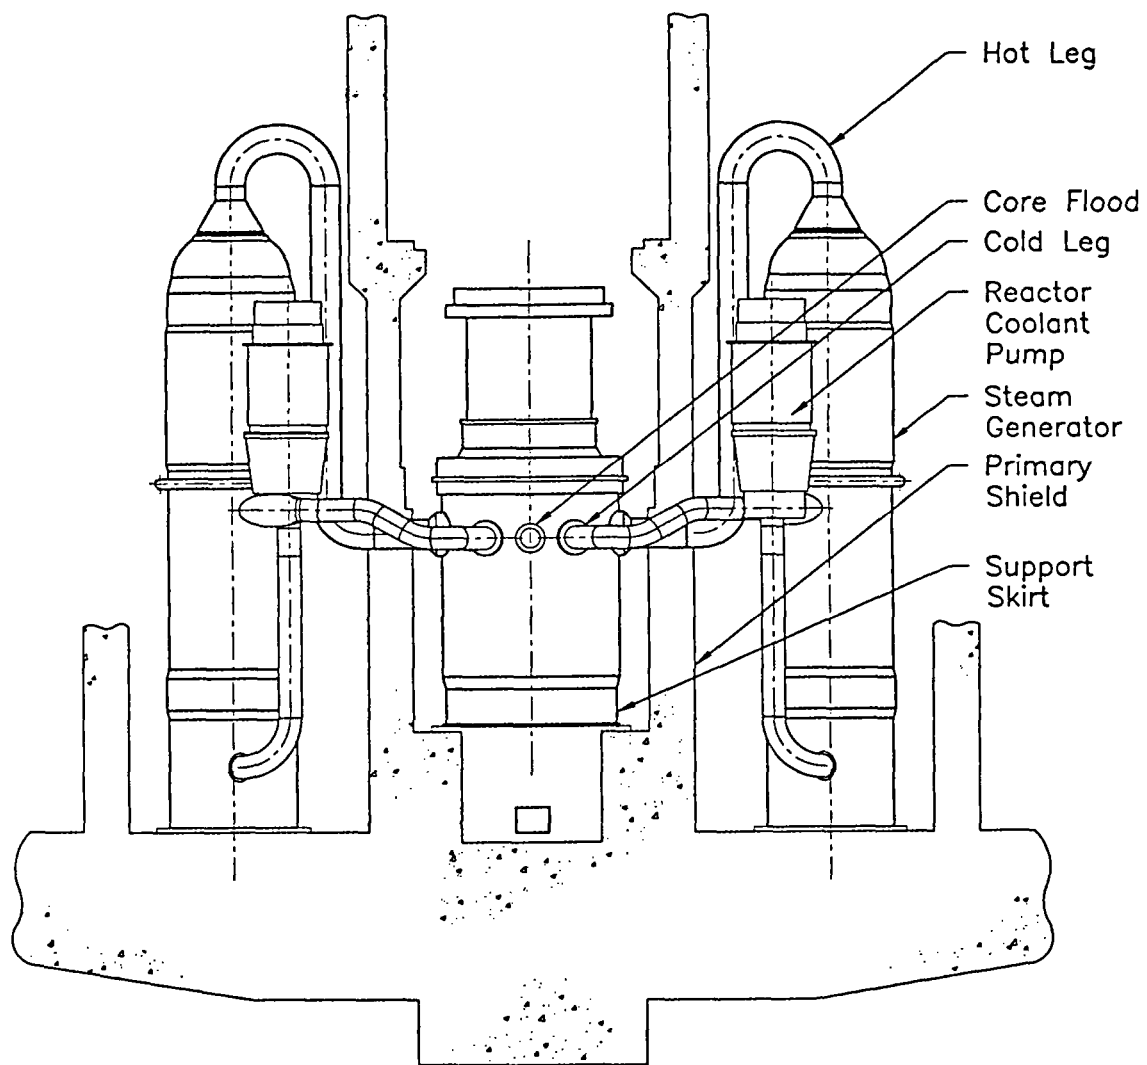

Figure 2. Midland NSSS – Elevation
- Midland NSSS is B&W designed, 2-loop PWR, skirt supported RPV, 2 hot legs and 4 cold legs (Figure 2).